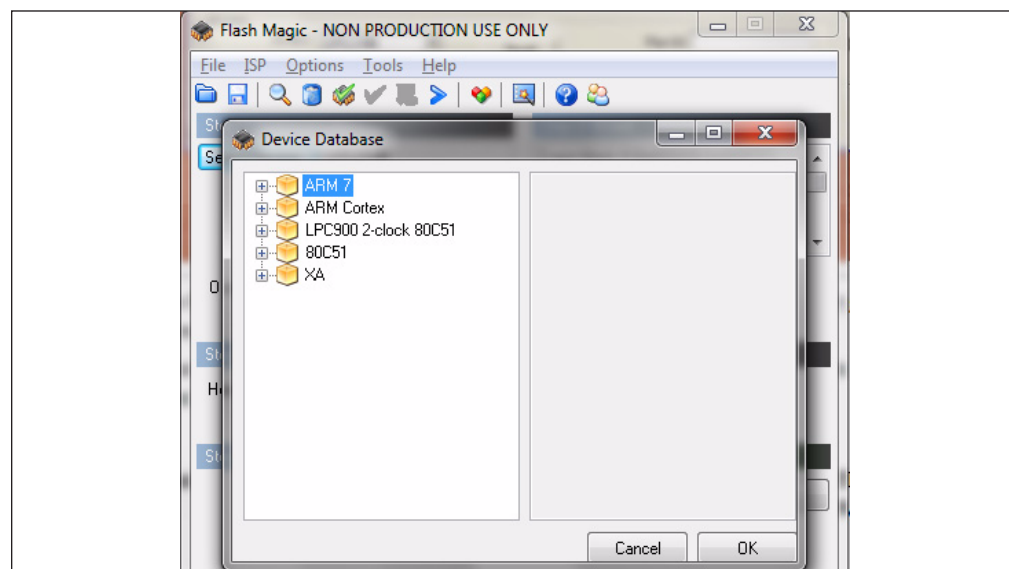

FIGURE 4-3: Device Selection Window.
2. Press the "Select Device" button and the window shown in Figure 4-3 will appear: